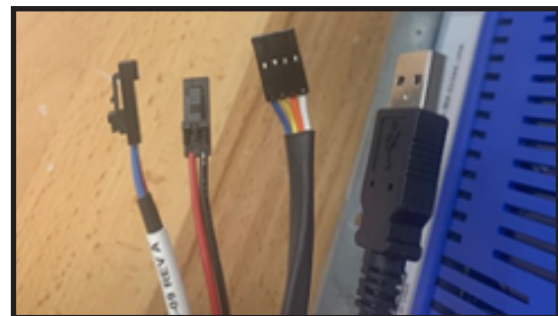

Figure 10
5. Disconnect cables shown (Figure 10).